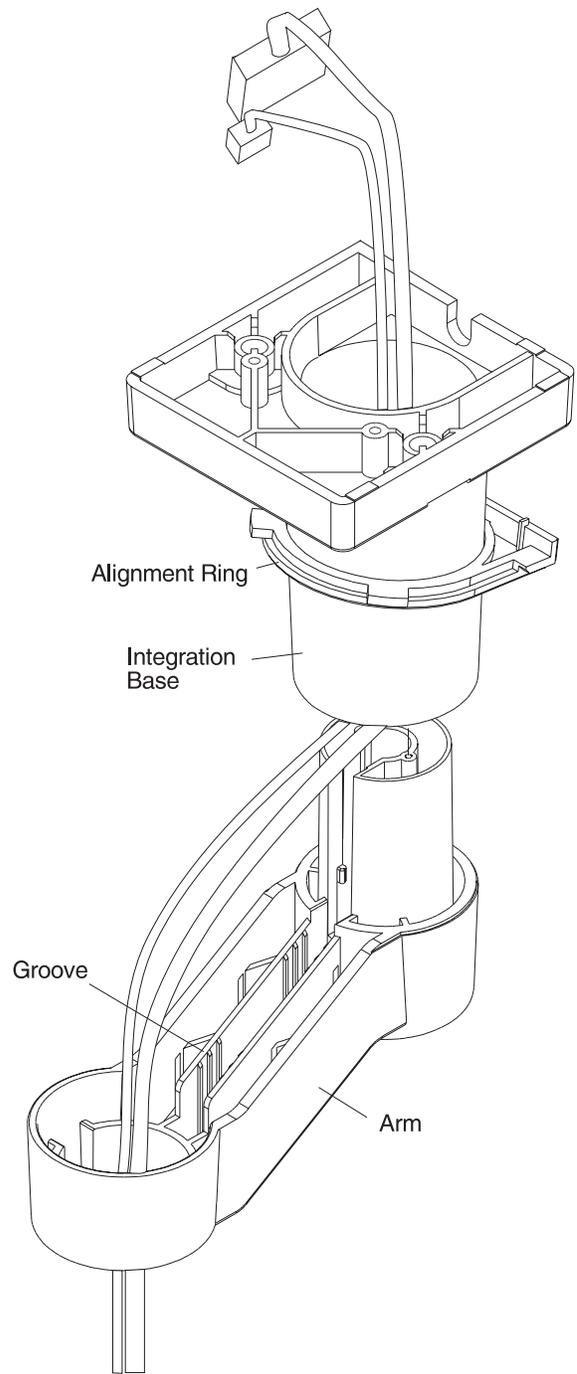

Figure 3-26. Integration Kit
- 4 Disconnect the arm from the integration base and remove the cables from the integration base. See Figure 3-26 on page 3-21.
- 2 Separate the arm from the integration base. Make sure that the alignment ring is on the base. See Figure 3-26 on page 3-21.
It is important that the cables are routed properly through the integration base, the arm, and the display holder. Make sure that the cables are positioned in the groove of the arm. See Figure 3-26 on page 3-21.